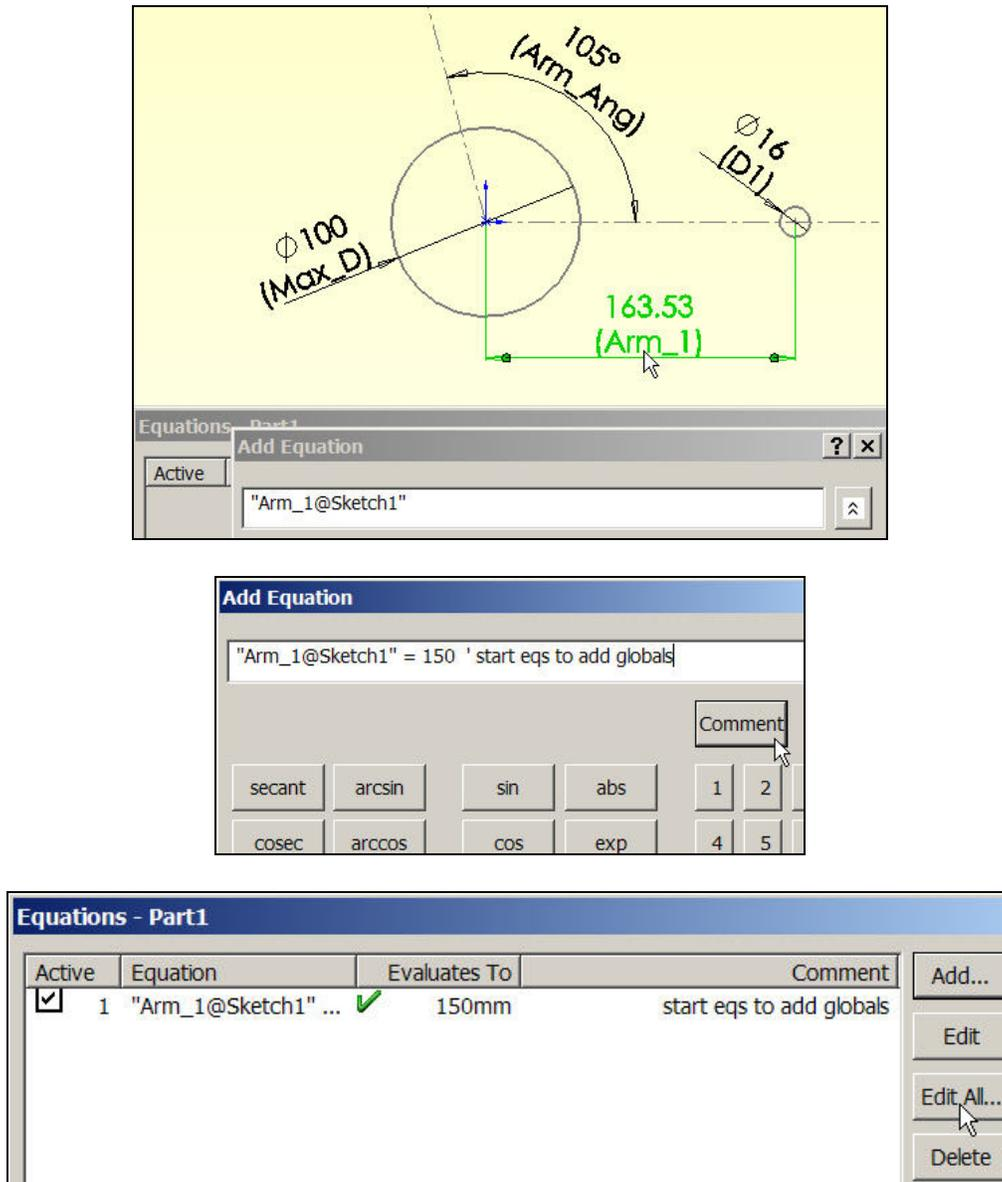

Figure 4 Beginning the design equations process.
The dimension Arm_1 will now be defined in an equation by making it a function of a global design parameter. There are two ways to start up design equations. Here you begin with the existing Arm_1 dimension, in Figure 3 lower right and top of Figure 4:
3. Use the lower **calculator** panel to add the desired initial length, say = 150 mm, **OK** (see middle of Figure 4).
4. Figure 4 (bottom) the green checkmark indicates that SW could solve the equation. A red exclamation mark would mean that an equation has failed to solve.
1. Figure 4).